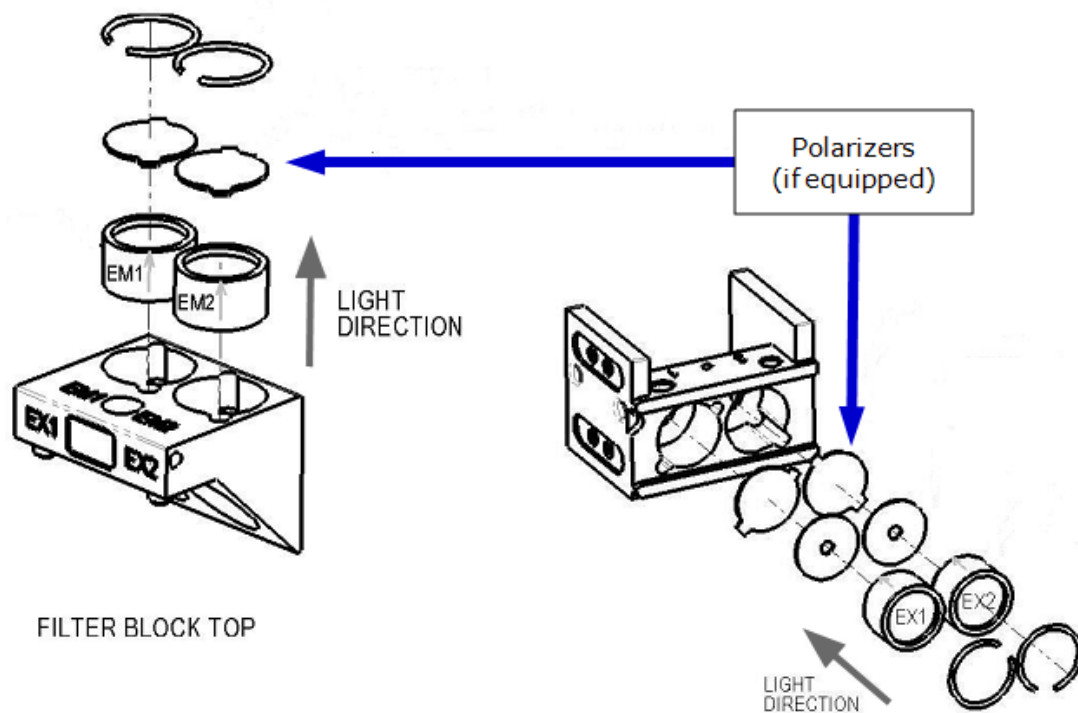
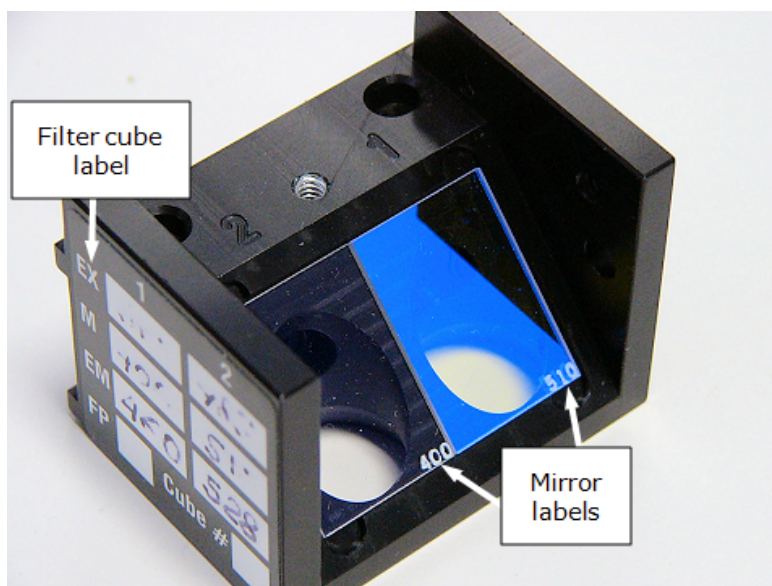

Figure 4-2: Proper orientation of the EX (left) and EM (right) filters in the filter cube
Figure 4-3: Two half-size mirrors positioned in the filter cube, with their labels in the lower-right corners
*Mirror direction* is also important. The mirror label should be in the lower-right corner of the mirror and readable (see Figure 4-3 on the next page). If the mirror is positioned incorrectly, your measurement data may be inaccurate.
1. Ensure that all filters, plugs, and mirrors are inserted properly in the filter cube (see Figure 4-2 and Figure 4-3).
- a. Make note of the mirror placement and label orientation (refer to Figure 4-3 on page 46).
- a. Orient the filter as shown in Figure 4-2 on page 45, observing the arrow on its side which indicates the light direction. Drop the filter or plug into the desired location.
2. To replace a mirror, hold the mirror by its edges, turn it so that its label is face-up and readable (see Figure 4-3 on page 46), and place it on the shelf in the filter cube.